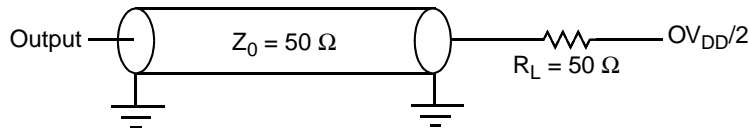
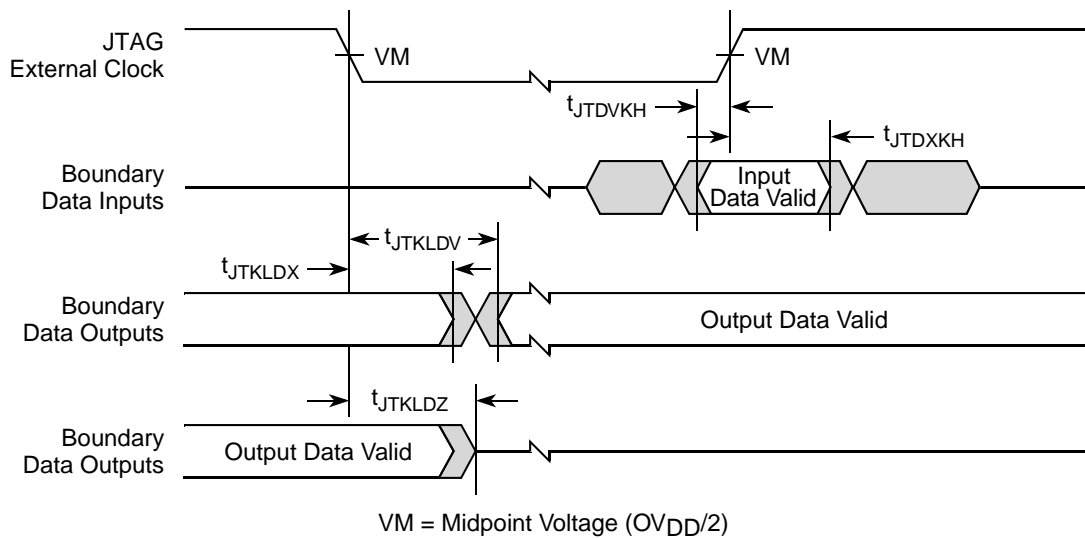

Figure 34. AC Test Load for the JTAG Interface
Figure 37. Boundary-Scan Timing Diagram
Table 50 provides the JTAG AC timing specifications as defined in Figure 34 through Figure 37.
1. All outputs are measured from the midpoint voltage of the falling/rising edge of t_{TCLK} to the midpoint of the signal in question. The output timings are measured at the pins. All output timings assume a purely resistive 50-Ω load (see Figure 34). Time-of-flight delays must be added for trace lengths, vias, and connectors in the system.
2. The symbols used for timing specifications follow the pattern of $t_{(first\ two\ letters\ of\ functional\ block)(signal)(state)(reference)(state)}$ for inputs and $t_{(first\ two\ letters\ of\ functional\ block)(reference)(state)(signal)(state)}$ for outputs. For example, $t_{JTDV KH}$ symbolizes JTAG device timing (JT) with respect to the time data input signals (D) reaching the valid state (V) relative to the $t_{JT G}$ clock reference (K) going to the high (H) state or setup time. Also, $t_{JTD X KH}$ symbolizes JTAG timing (JT) with respect to the time data input signals (D) went invalid (X) relative to the $t_{JT G}$ clock reference (K) going to the high (H) state. Note that, in general, the clock reference symbol representation is based on three letters representing the clock of a particular functional. For rise and fall times, the latter convention is used with the appropriate letter: R (rise) or F (fall).
Figure 34 provides the AC test load for TDO and the boundary-scan outputs.
Figure 37 provides the boundary-scan timing diagram.